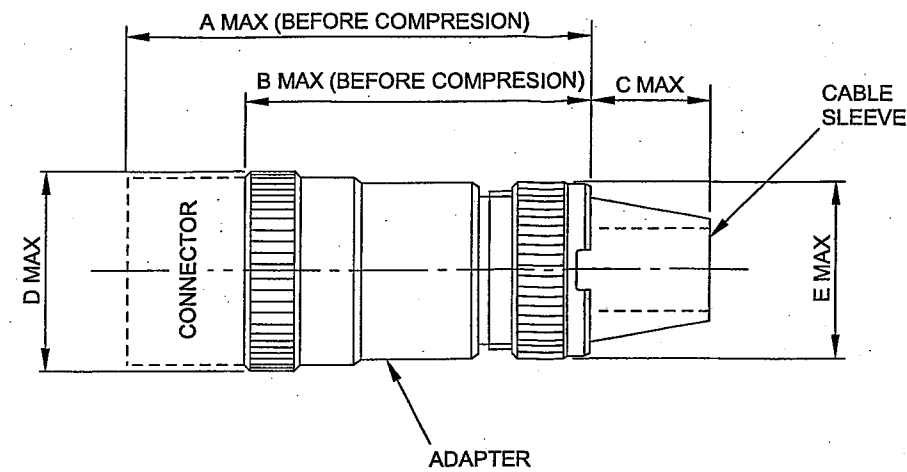

Fig 42 Screened cable adapter, dimensions
30.1 The screened cable adapters are used for terminating the screen sheath of jacketed cables. They consist of an adapter which screws on to the rear of the connector (replacing the compression nut) and a neoprene cable sleeve. Details of the adapter's numbering system are given in Para 30.4. Details of adapters are given in Fig 42 and Table 32.